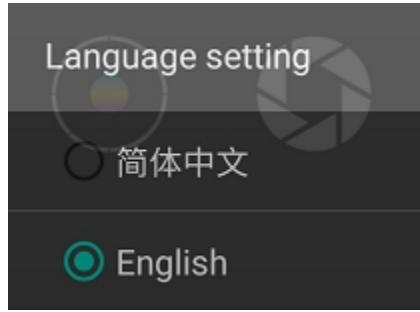

Figure 2.2.9 Language setting
6. Language setting: Select Simplified Chinese or English to switch between Chinese and English interfaces, as shown in Figure 2.2.9.